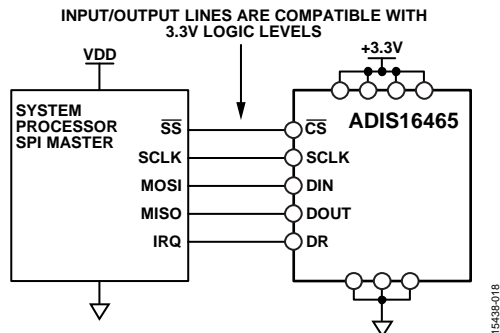

Figure 25. Electrical Connection Diagram
The SPI provides access to the user registers (see Table 8). Figure 25 shows the most common connections between the ADIS16465 and a SPI master device, which is often an embedded processor that has an SPI-compatible interface. In this example, the SPI master uses an interrupt service routine to collect data every time the data ready (DR) signal pulses.